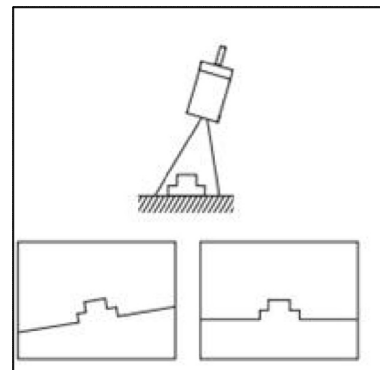

Figure 3.4.2 Demonstration of Tilt Correction
- Tilt Correction: Corrects tilt errors in the X-axis direction caused by the tilt of the sensor head setup, the target object, or the object placement platform. The tilt correction range is [-44.4270, 44.4270], as shown in Figures 3.4.2 and 3.4.3.